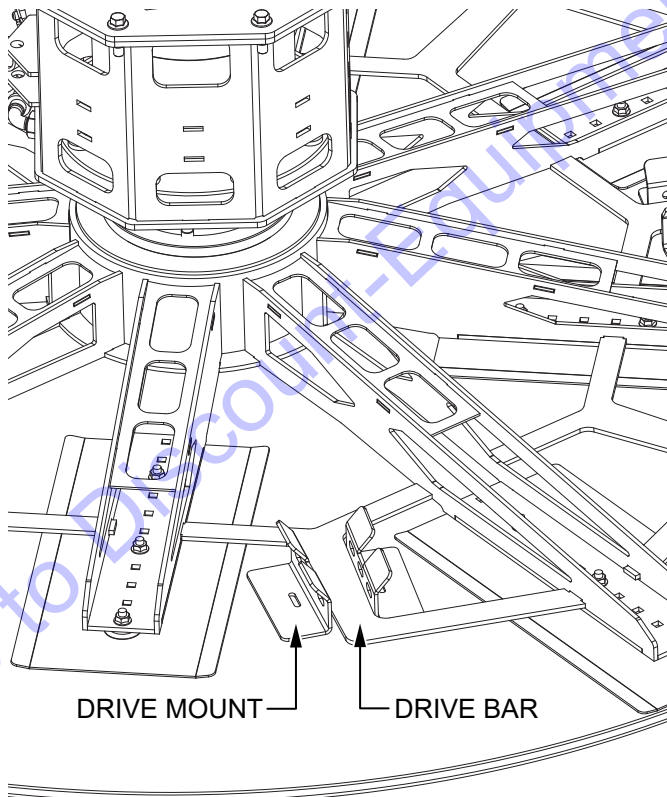

Figure 84. Float Pan Installation
- Once they are properly aligned, lower the float completely onto the pan, making sure the spider drive bars fit securely into the pan drive mounts (Figure 84).